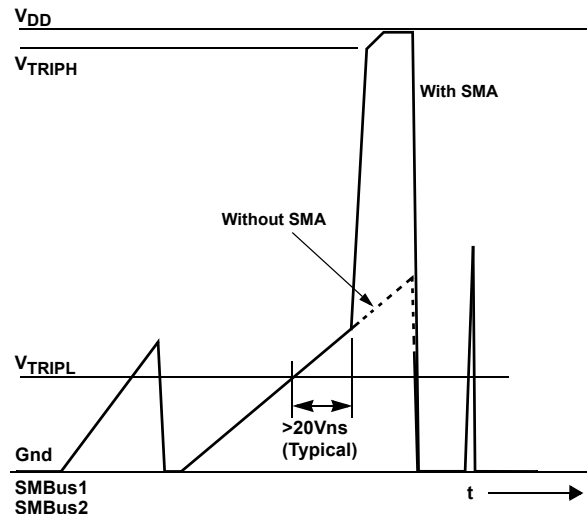

FIGURE 10. NOISE SUPPRESSION. BOOST CURRENT APPLIED WHEN INPUT SIGNAL EXCEEDS 20Vns (TYPICAL)
| Noise Spike Suppression (Note 5) (Figure 10) | NSS | | | 20 | | V-nsec |
5. Measured as area under triangular waveform above V_{TRIPL} , with time as base and V_{IN} as height (see Figure 10 on page 7).